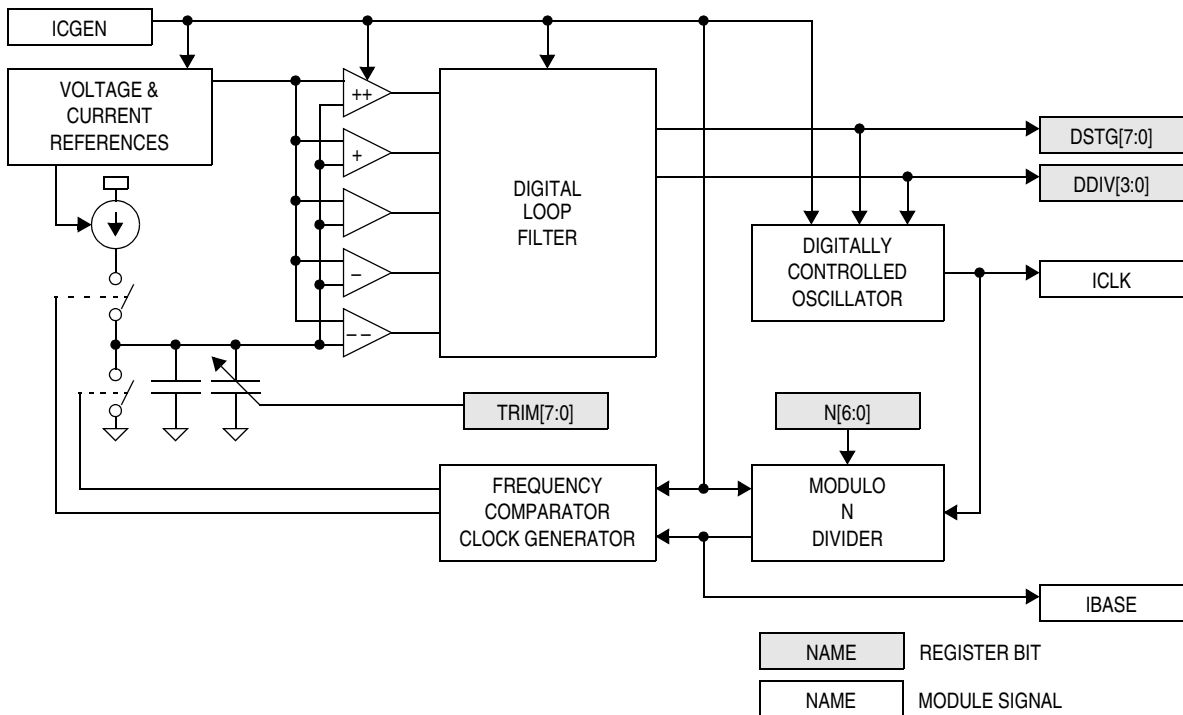

Figure 6-2. Internal Clock Generator Block Diagram
The internal clock generator, shown in **Figure 6-2**, creates a low-frequency base clock (IBASE), which operates at a nominal frequency ( $f_{NOM}$ ) of 307.2 kHz  $\pm$ 25 percent, and an internal clock (ICLK) which is an integer multiple of IBASE. This multiple is the ICG multiplier factor (N), which is programmed in the ICG multiplier register (ICGMR). The internal clock generator is turned off and the output clocks (IBASE and ICLK) are held low when the internal clock generator enable signal (ICGEN) is clear.